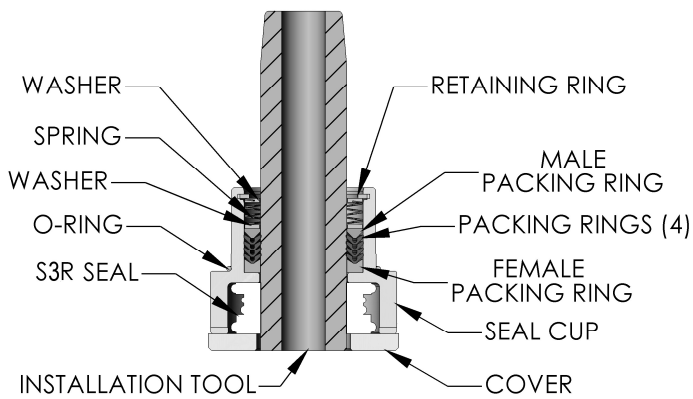
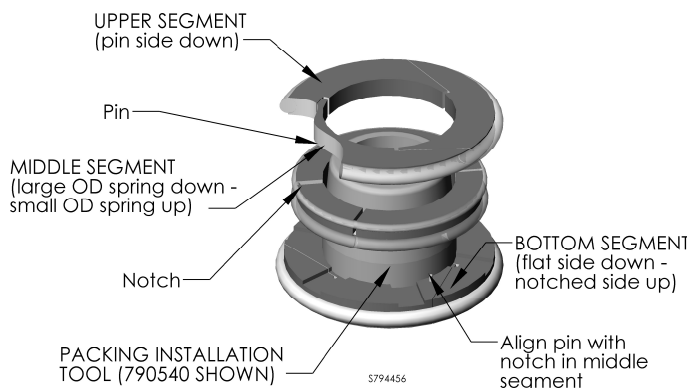

Figure 14a – Seal Cup Assembly
Figure 14b - S3R Oil Seal Installation
- g. Install the S3R seal in the seal cup as shown in figure 14a. Place the S3R seal on the packing installation tool in the order shown in figure 14b, with the upper segment toward the tapered end of the installation tool. Insert the installation tool, with the S3R seal, into the seal cup, with the tapered end toward the packing rings. Place seal cup cover on seal cup and secure with two capscrews